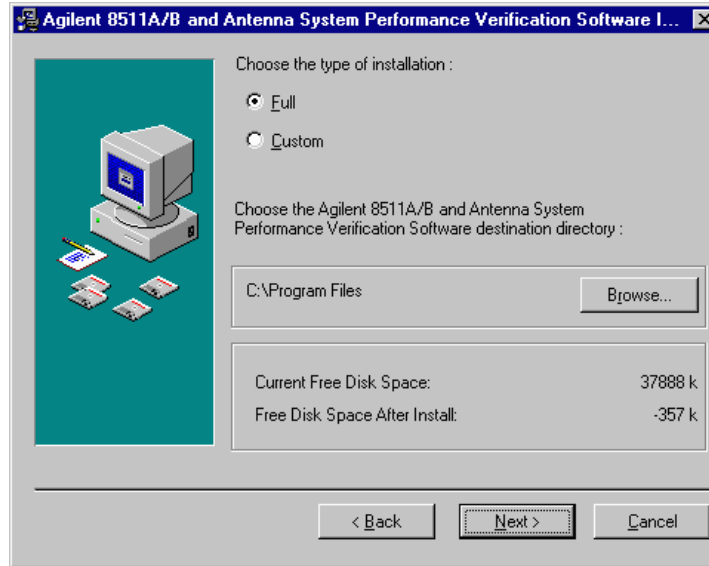

Figure 4 *Choose Installation Destination Window*
8. The **Agilent/HP Antenna System Verification Software Installation** window is displayed. Select the **F**ull or **C**ustom installation radio button (**F**ull is recommended). Choose the default destination directory or click **B**rowse to locate a different directory for the software installation. See Figure 4.